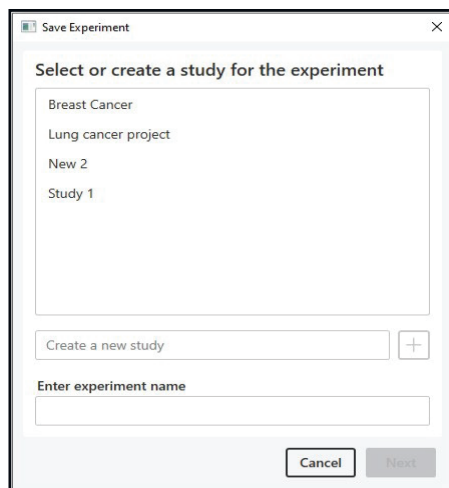

Figure 4.4. Save Experiment screen.
1. Select the New button on the main screen. (See Figure 4.3.) The Save Experiment screen displays. (See Figure 4.4.)